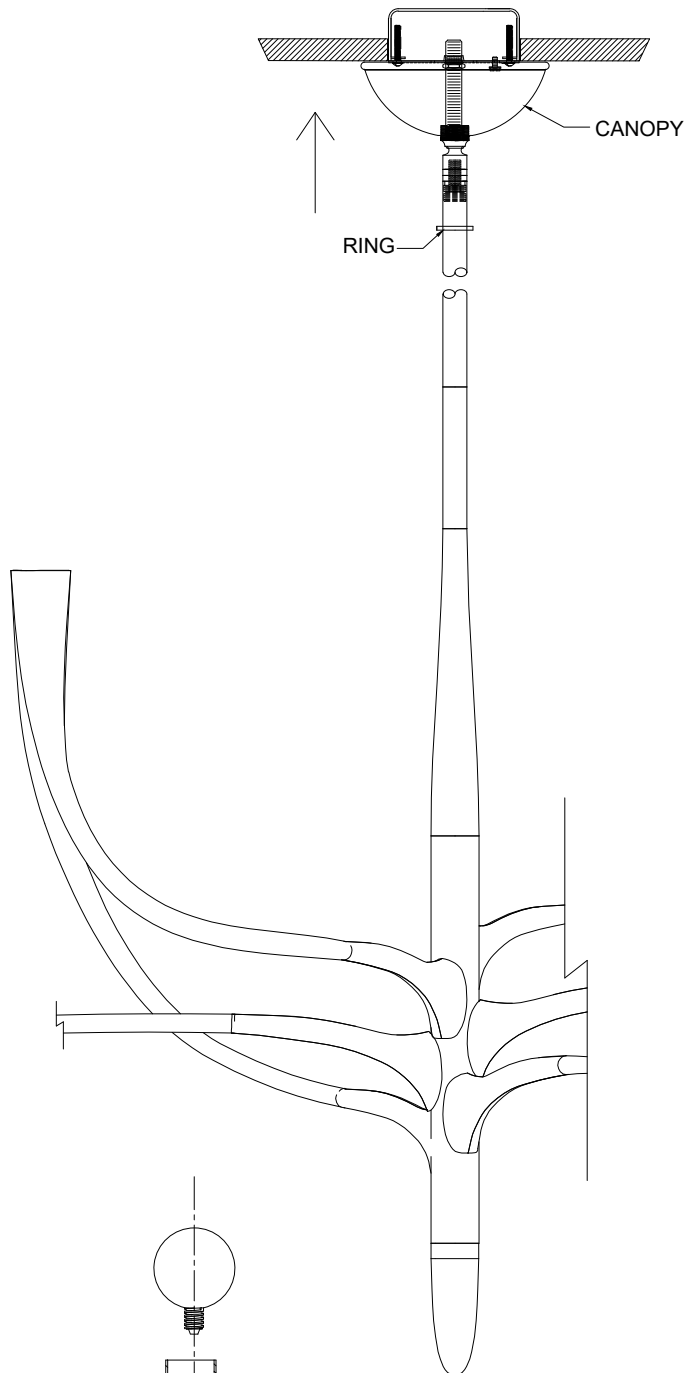

FIGURE-02
8. Lift the canopy and the swivel ring up the stem. Tighten the ring to hold the canopy in place. (See FIGURE-02)